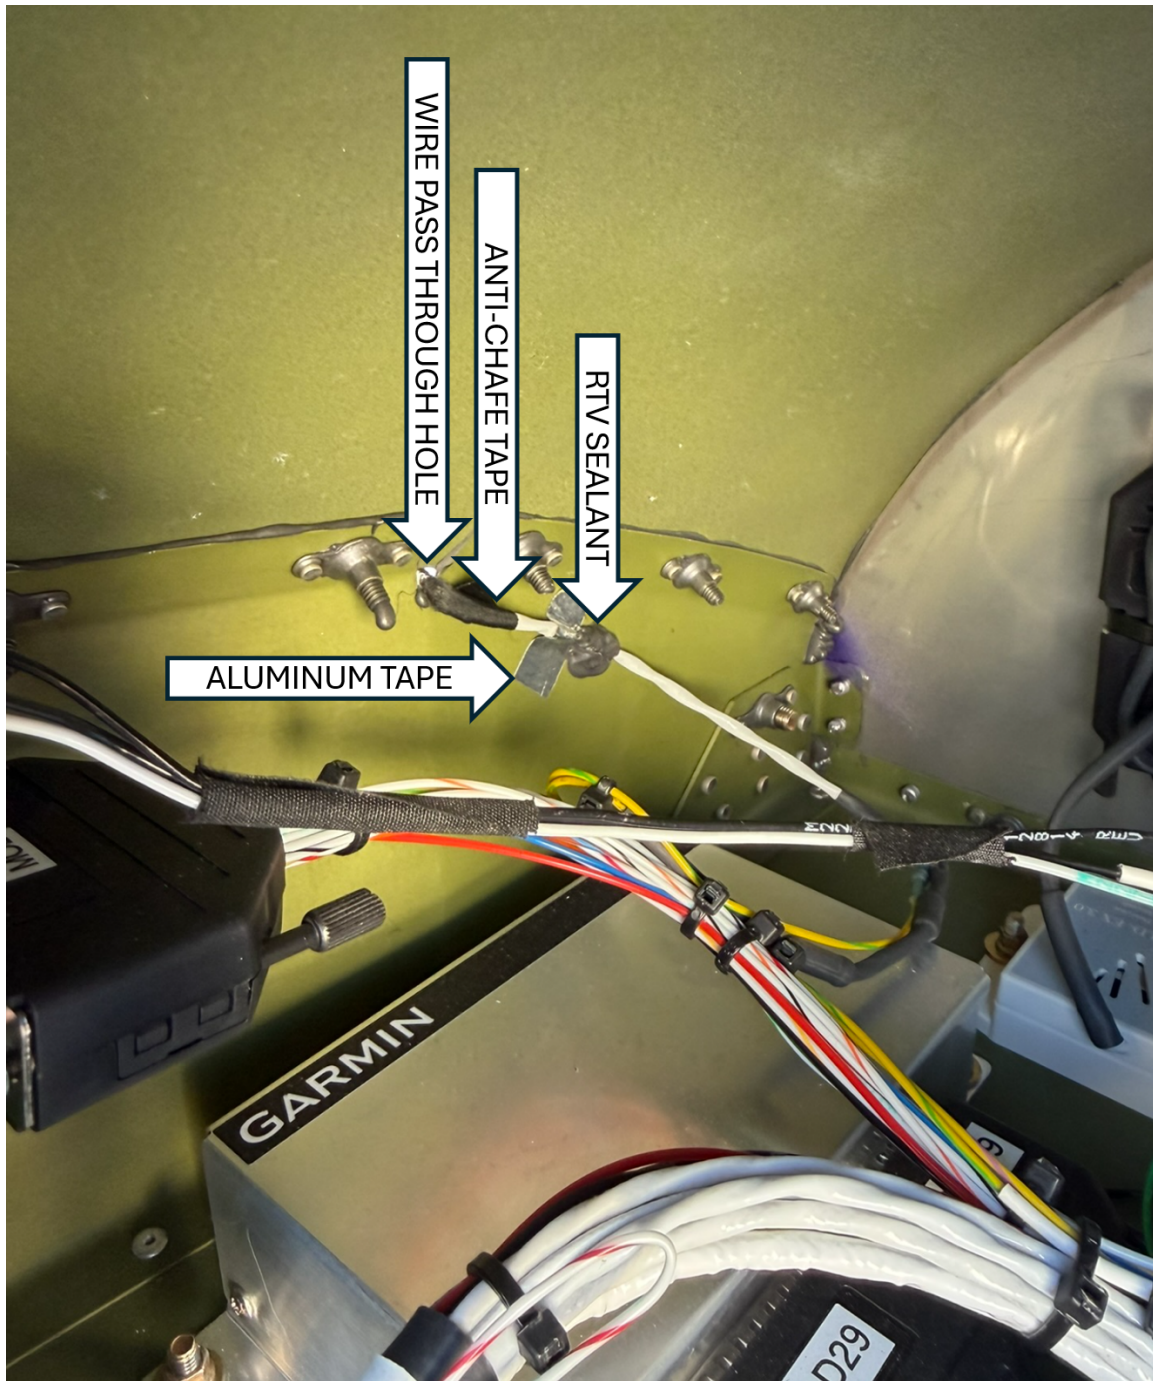

FIGURE 1: INTERNAL WIRE ROUTING
The canopy lighting wire may rub against the gas strut and gas strut retention hardware chaffing through the wire insulation causing a short unless the wire retained against the canopy frame as shown in Figure 1.
Step 2: Remove any aluminum foil tape retaining the wire as shown in Figure 1.
Step 3: Remove any RTV from the wire pass through hole or that may be retaining the wire along the side of the aircraft as shown in Figure 1.
Step 11: Apply the aluminum foil tape as shown in Figure 1. Repeat Step 9 to confirm the wire is not being placed in tension.
Step 12: Open the canopy and apply RTV to the pass through hole and along the wire forward of the aluminum tape as shown in Figure 1. Carefully clean any excess RTV from the outside of the wire passthrough while making sure the wire pass through hole is sealed. Leave the canopy in the open position until the RTV has fully cured.